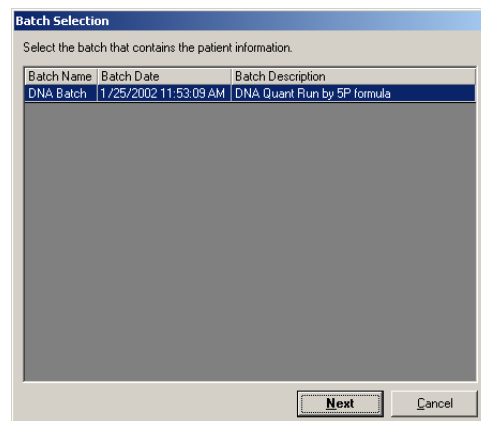

Figure 5-95 Batch Selection Dialog Box
2. Select the type of report that you want to print and click **Next**. For the Analyte, Clinical Patient, and Batch Summary Reports, the **Batch Selection** dialog box opens. Select the batch to print. See Figure 5-95. For the Quality Control, Maintenance, Calibration Trend, and System Control Trend Reports, a dialog box related to the specific report opens.